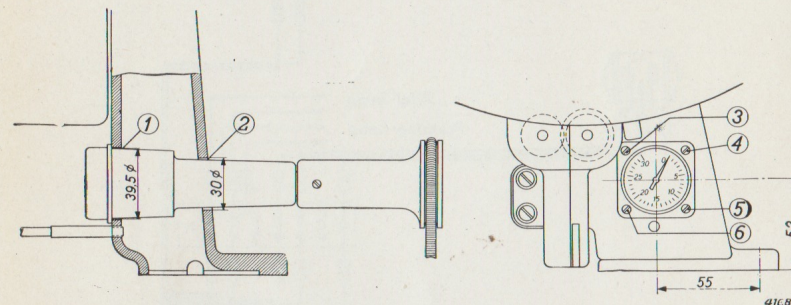

Fig. 10
c. Mounting the film-speed indicator (Fig. 10)